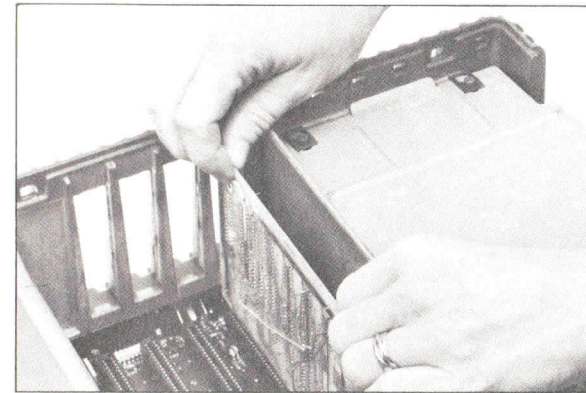
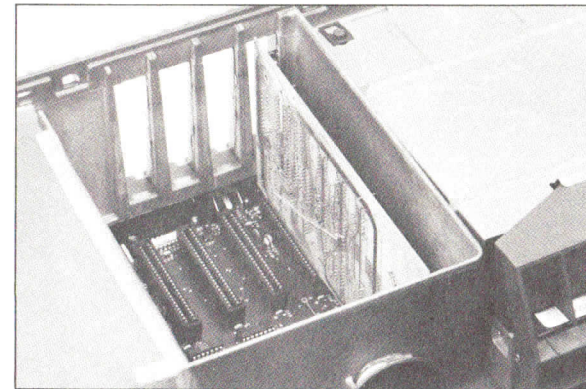

Figure 2-4. Installing the Interface Card
Figure 2-5. Fully Inserted Interface Card
- 9 Figure 2-4 Installing the Interface Card
- 9 Figure 2-5 Fully Inserted Interface Card
With the computer facing you, hold the interface card with its gold "fingers" pointing down. The component side of the card should be facing to the right. Select one of the four peripheral card slots. Slide the front edge of the card into the card guide as shown in Figure 2-4. Continue to slide the card down until the "fingers" begin to enter the peripheral connector. At this point, you're probably going to have to exert force (not too much) to fit the interface card completely into its slot. A fully inserted interface card is shown in Figure 2-5. If the interface card doesn't seem to fit, remove it completely and try again, making sure that the card enters the card guide straight up and down.